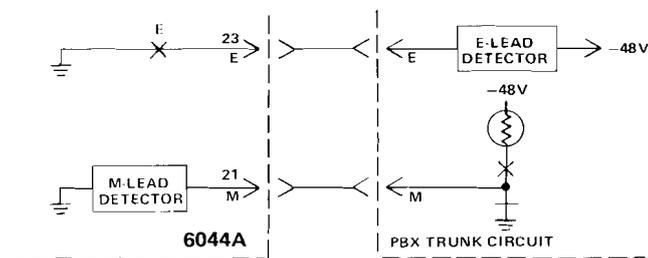

figure 3. Type I E&M interface
1.07 The 6044A can be switch optional for DX1 or DX2 operation. With DX1 operation, M-lead signals are input to and E-lead signals are output from the module. With DX2, E-lead signals are input to and M-lead signals are output from the module. Either Type I, II, or III E&M lead interfacing (see figures 3 through 5 in section 2 of this Practice) can also be switch-selected. Please note that while the Type I and II interfaces can be used with either DX1 or DX2 operation, the Type III interface can only be used with DX1.
2.07 The 6044A operates in either the DX1 mode (M-lead input, E-lead output) or the DX2 mode (E-lead input, M-lead output). The DX2 mode is generally used in tandem applications of DX sets, in applications where the 6044A interfaces carrier or other signaling sets, or in other applications where a terminal-side E&M interface must be provided. Both DX1 and DX2 operation eliminate the need for a pulse-link repeater in applications where the 6044A interfaces carrier or in tandem DX-set applications. Type I, II, or III E&M-lead interfacing can be switch-selected (see figures 3 through 5). The Type I and II interfaces can be used with either DX1 or DX2 operation; the Type III interface is **only** used with DX1. In general, Type I is used with elec-